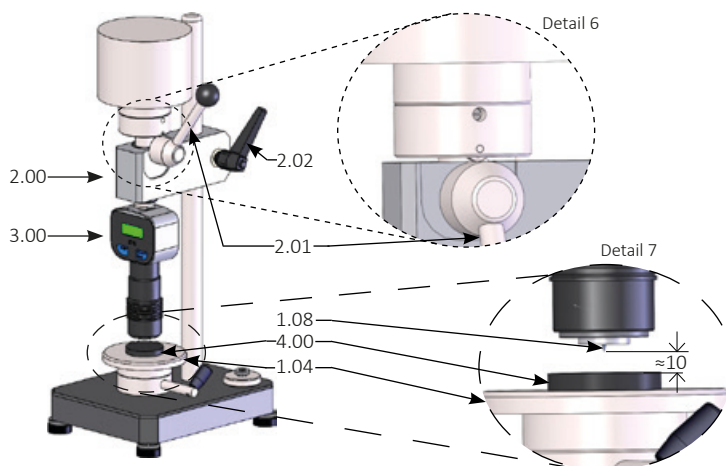

Fig. 7 Hardness test Shore D, C, D0
- › Gently swing the loading lever (2.01) down until the hardness tester makes a full contact with the specimen and let go of your hand (see Detail 6, Fig. 7).